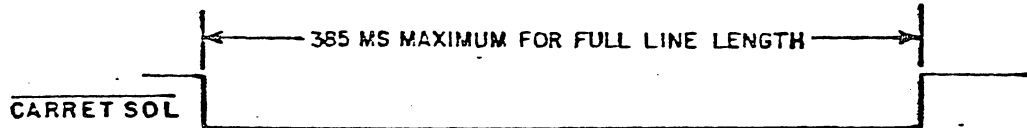

Figure 4-12. Carrier Return Pulse
2. Trigger, if necessary. The carrier return pulse should be that shown in Figure 4-12.